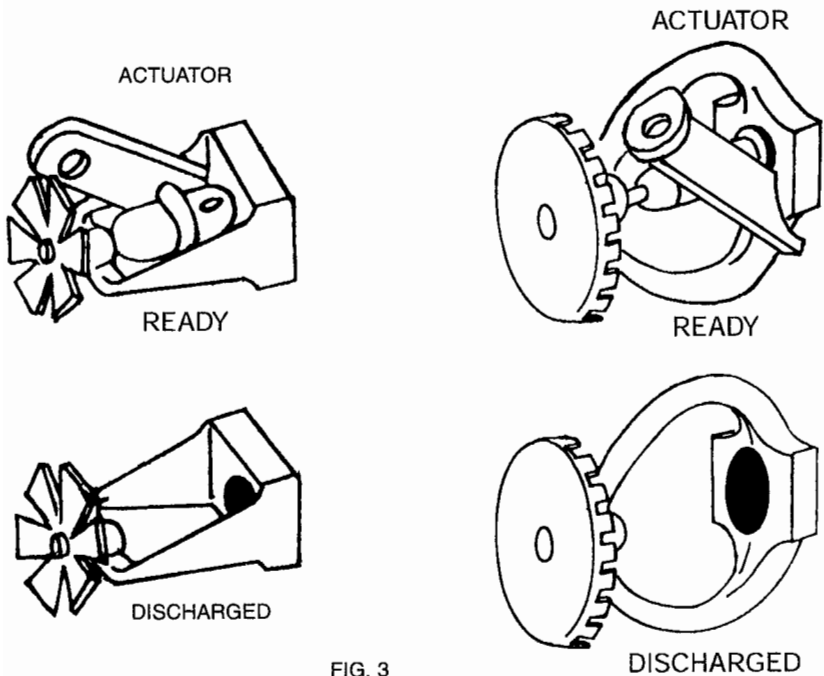

FIG. 3
Inspect the pressure gauge and the system daily. Figure 3 illustrates the ready and discharge condition of the actuator. Remove and weigh the complete unit (less brackets) every six (6) months on an accurate scale and record on tag provided. (Do not use any type of hand-held scales. Instead use an accurate scale which is frequently certified by an independent agency.) If weight is below that shown on each unit's nameplate, it must be removed from service immediately. If leakage is suspected, brush liquid soap on all points of possible leaks, or submerge entire unit in clean water and watch carefully for 5 to 10 minutes. Leaks will appear as tiny bubbles. If leakage is found, return the unit to manufacturer immediately for repair or replacement. See Limited Warranty on page 12 for details. Remember the two most important requirements to assure full charge and reliability of your Fireboy System are (1) visual inspection of the gauge and the actuator to determine if it has been actuated; (2) weighing, the sure method of determining the contents of the agent in the system.